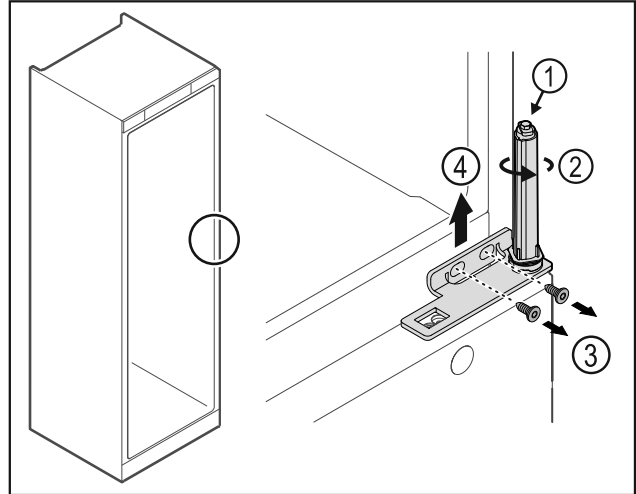

Fig. 24
- ▶ Do not disassemble the door closing system Fig. 24 (1).
- ▶ Turn the closing system Fig. 24 (2) until it clicks.
- ▶ Loosen the screws Fig. 24 (3) and lift off the hinge Fig. 24 (4).